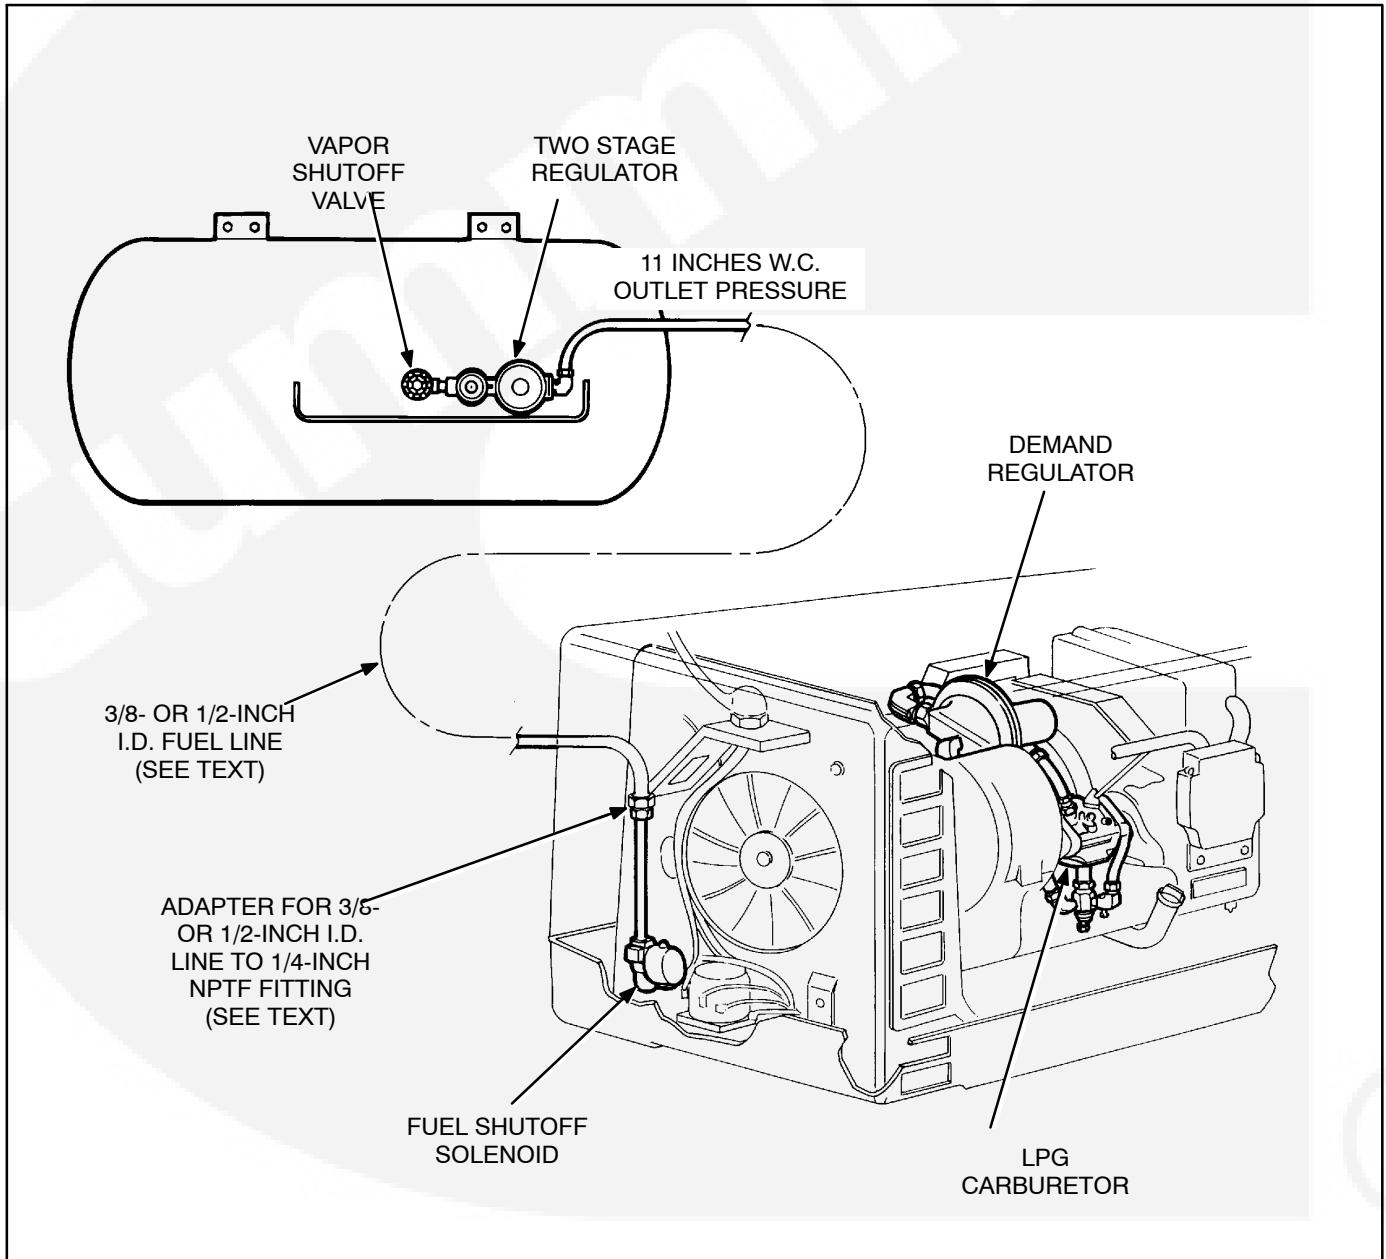

FIGURE 7-5. TYPICAL LPG VAPOR WITHDRAWAL FUEL SYSTEM
LPG models are designed for a low-pressure vapor-withdrawal type of LPG supply system. See Figure 7-5. *LPG supply pressure at the inlet to the demand regulator must be 9 to 13 inches (229 to 330 mm) water column (WC) when the genset is running under full load.*